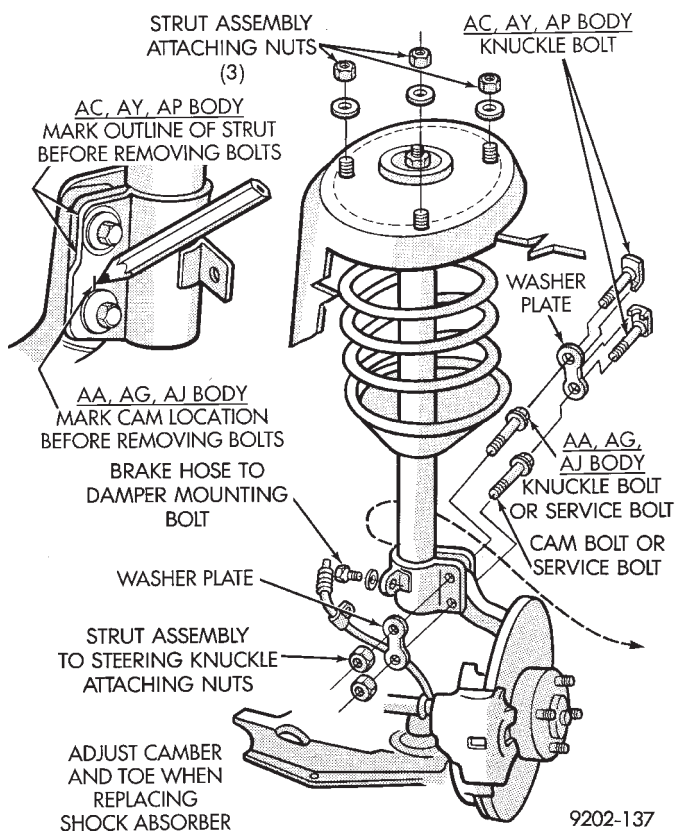

Fig. 1 Strut Damper Removal
Where service procedure includes assembly of original strut (shock absorber) to original knuckle. Mark cam adjusting bolt (Fig. 1), on AA, AG and AJ bodies only. Mark outline of strut on knuckle as shown in (Fig. 1). on AC, AY, and AP bodies.
- (4) Remove cam bolt, knuckle bolt(s), washer plate(s) and brake hose to damper bracket retaining screw (Fig. 1).
- (5) Remove strut damper to fender shield mounting nut washer assemblies.
(1) Install unit into fender reinforcement and install retaining nuts and washer assemblies (Fig. 1). Tighten the 3 nuts to 27 N•m (20 ft. lbs.) torque.
(2) Position steering knuckle neck into strut assembly. Position washer plate and install cam and knuckle bolts (Fig. 1).
(3) Attach brake hose retainer to damper, tighten the screw to 13 N•m (10 ft. lbs.) torque (Fig. 1).
(4) Index strut to original outline on the knuckle neck, or align mark on cam bolt with the mark that was put on the strut to steering knuckle bracket (Fig. 1).